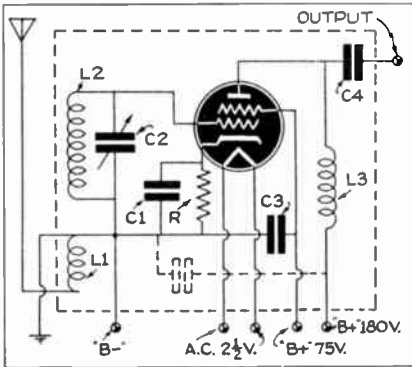

Fig. 54
(A) The circuit requested is Fig. 54; connect its "output" to the "Ant." post of the first K.F. tube in the set. The tuning condenser C2 will not "track" closely with the radio set dial unless it is of the same capacity and design of plates; and unless coil L2 has the same effective inductance as the tuned windings in the associated receiver.